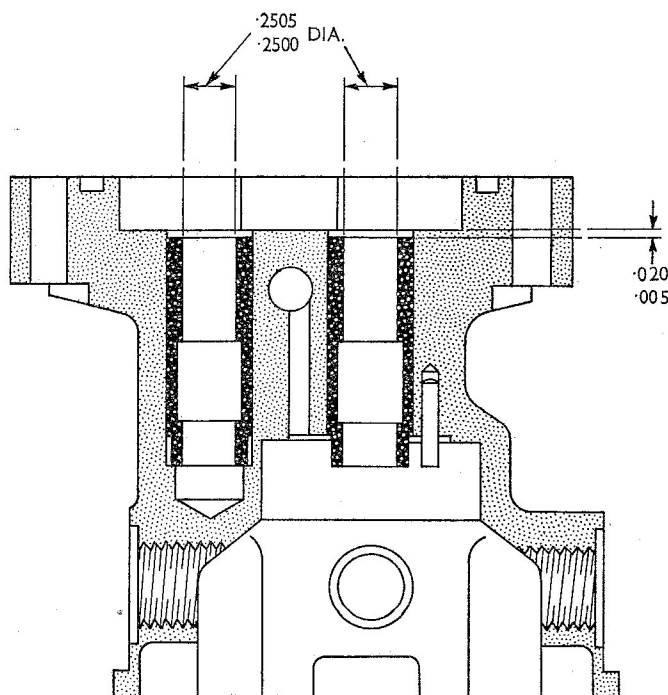

Fig. 2. Fitting replacement bushes in pump body
- (2) Insert the new bronze bushes into bores of the pump body as shown in fig. 2. Ensure that the ends of the bushes are 0.005 to 0.020 in. below the pump body face. Lightly ream the bushes 0.2500 to 0.2505 in. diameter.
(5) Fit the sealing ring to the pump body, then fit the pump cover aligning the relief valve duct, and secure with the 2 BA bolts, washers and nuts; fully tighten the bolts evenly in diametrically opposed sequence.
(6) Check the assembly for freedom of rotation. If freedom is restricted, remove the pump cover and recheck clearances.
(8) Fit the non-return valve to the delivery side of the pump, then fit the remaining unions, plugs and sealing washers as shown on fig. 2.
(10) Assemble the gland spring, gland plate, gland seal and thrust plate to the gland sleeve, taking care to avoid nipping the gland seal between the thrust plate and the periphery of the gland sleeve. Compress the spring and insert the drive pin into the drive shaft.
(11) Fit the drive shaft to the bearing housing, locating the ball bearing in the housing recess.
(12) Fit the coupling and secure it with the split taper pin.
(13) Fit the drive shaft assembly to the pump, interposing the gasket, and secure with the service bolts T.100088. Submit the pump to the tests detailed in para. 22 onwards.
(15) Position the sealing ring at the inner end of the counterbore at the pump end of the gland housing, then insert the spring support washer.
(16) Fit the sealing ring to the gland sleeve, position the thrust collar and the spring on the sleeve, then locate the assembly, spring first, in the gland housing.
(17) Fit the drive pin to the coupling shaft, then position thimble TA.3056 over the motor end of the shaft. Assemble the thrust washer assembly and the shaft to the gland housing.
(18) Position the thrust plate over the coupling shaft flange, apply sufficient pressure to compress the spring and secure the assembly with the circlip.